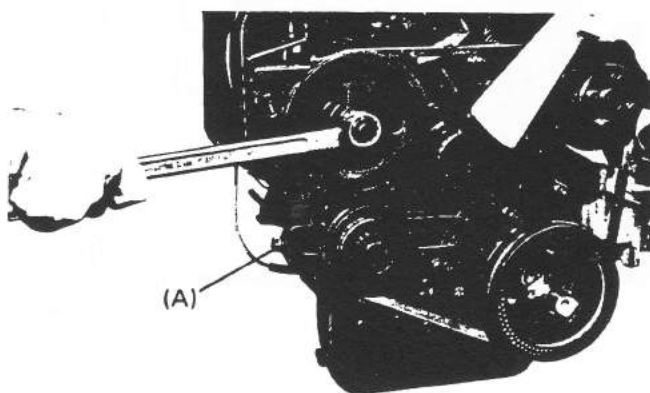

Fig. 32
- Screw in the adjusting bolt (A) to make the V-belt tight, and loosen the governor pulley lock nuts, as shown in Fig. 32.